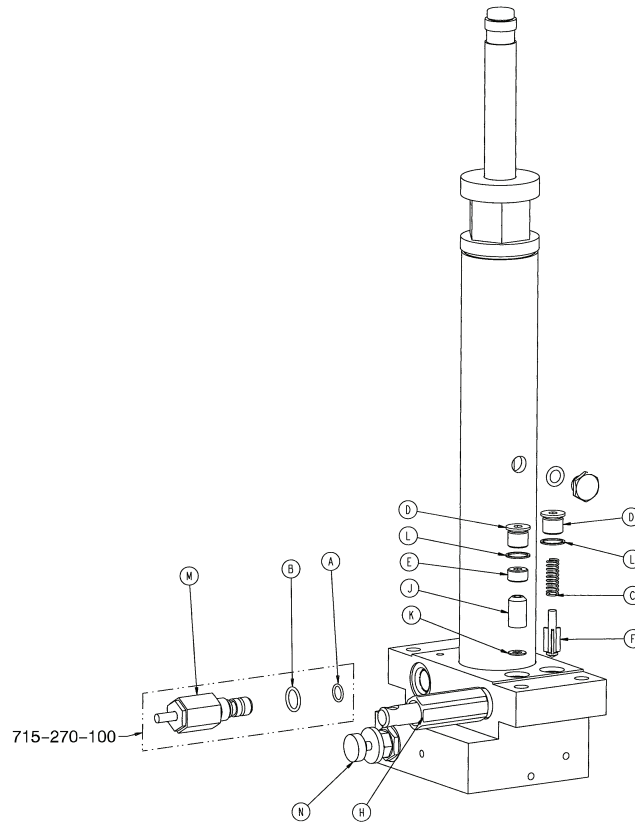

Figure 13 – Descent rate adjustment
6. Using the blue knob on the end of the P.C. valve (N), adjust the valve so the foot end jack descends slightly faster than the head end jack (Figure 13). To adjust, loosen the silver locking ring by turning it counterclockwise.
7. Using a 1/4" Allen wrench, remove the base plug (D) and the seal (L) (Figure 13). Save the base plug and seal.
8. Remove and save the compression spring (C) (Figure 13).
9. Using small needle nose pliers, remove the poppet valve (F) (Figure 13). Discard the poppet valve.
8. Using a 1/4" Allen wrench, remove the valve plug (E) (Figure 13). Save the valve plug.
9. Using a stiff wire, with a bent, pointed end, remove the check valve (J) and seal (K) (Figure 13). Discard the check valve. Save the seal.
7. Using a 13/16" combination wrench, remove the adjustable P.C. valve (N) (Figure 13). Discard the P.C. valve.